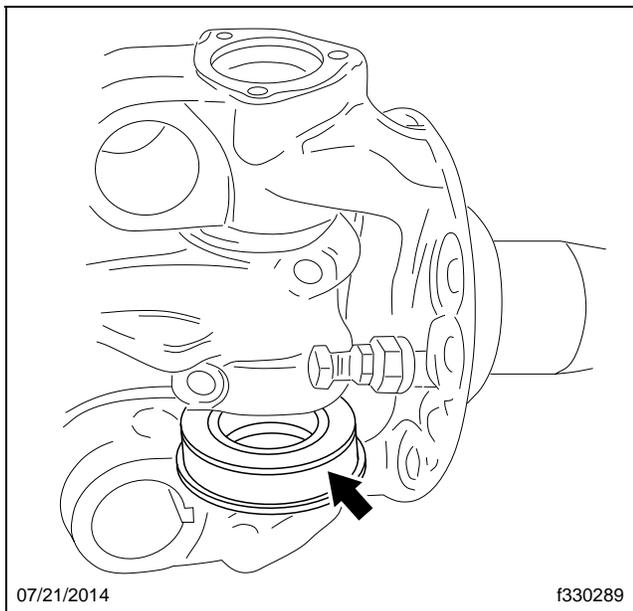

Fig. 6, Installing the Thrust Bearing
- 26.1 Install the thrust bearing, oriented with the seal at the top. See **Fig. 6**.